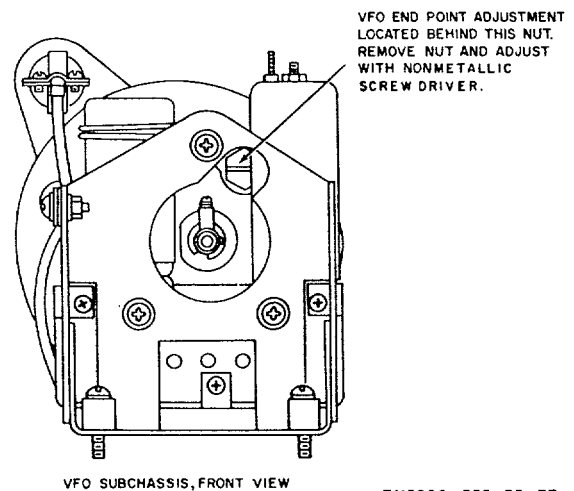

Figure 73. Variable-frequency oscillator end-point adjustment.
(fig. 73)
- h. Use a thin screwdriver through the vfo end-point-adjustment access hole (fig. 73) to adjust L701 for zero beat.